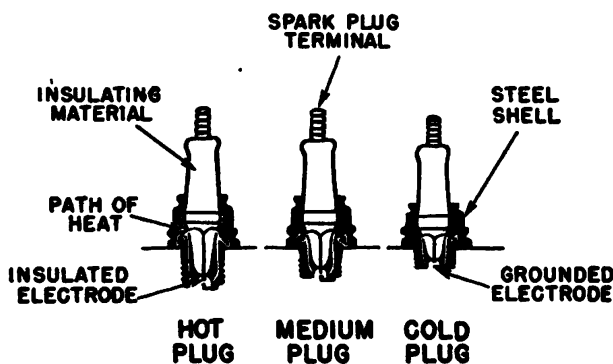

FIGURE 101.—Heat conductivity of various types of spark plugs.
*b. Hot and cold plugs.*—High-compression pressures and increased speeds result in higher temperatures that necessitate the use of spark plugs which will carry away heat rapidly. The extent to which a plug will carry away heat depends on the length of insulation exposed to the combustion gases. Hence, for engines which develop a great deal of heat, a spark plug with a short insulation (cold plug) should be used. For low-compression engines, a plug with a long insulation (hot plug) should be used. Figure 101 illustrates three plugs of various heat ranges and also the path of heat conduction. However, the heat of an engine is not the only consideration in selecting a spark plug. The conditions under which the motor-cycle is operated have an important bearing on the type of plug needed. Exceptionally severe service, such as continuous runs in mountainous country or running at high speeds for long distances, will require a cooler plug than that used for ordinary service.